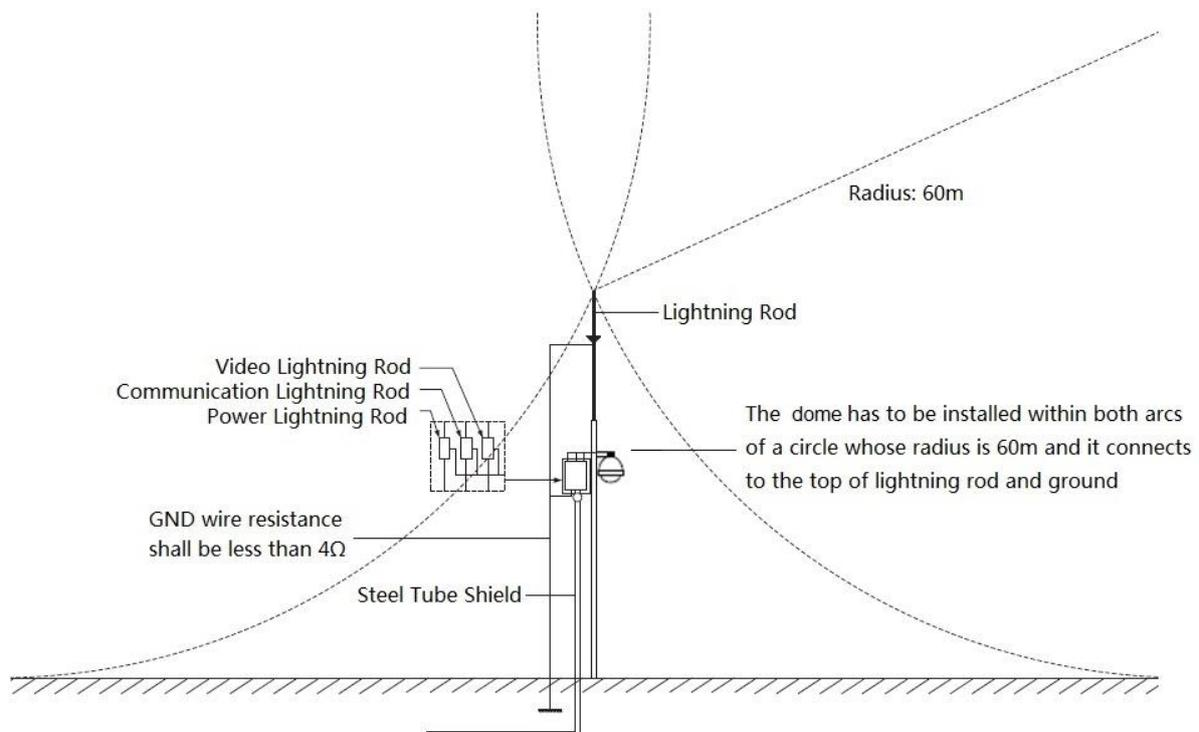

Figure 6-1
- System shall adopt equal-potential wiring. The earth device shall meet anti-jamming and at the same time conforms to your local electrical safety code. The earth device shall not short circuit to N (neutral) line of high voltage power grid or mixed with other wires. When connect the system to the earth alone, the earth resistance shall not be more than $4\ \Omega$ and earth cable cross-sectional area shall be no less than $25\ \text{mm}^2$. See Figure 6-1.